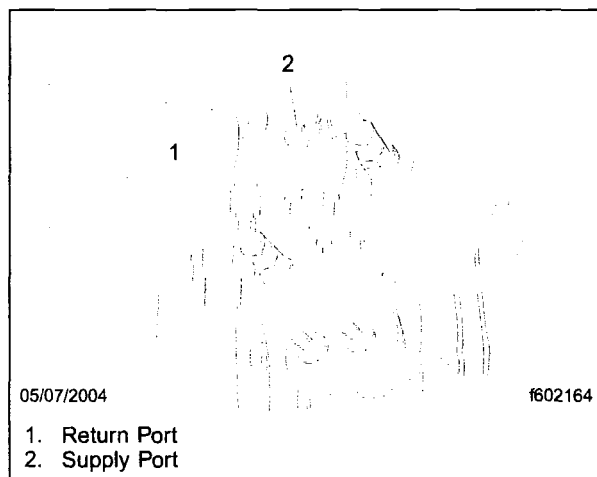

Fig. 3, Install a Flow Restrictor on the Supply and Return Ports
4. Remove the hydraulic hose and elbow adaptor fitting from the supply and return ports on the tilt cylinder. The supply port is located 90 degrees from the fluid tube and the return port is adjacent to the fluid tube on the tilt cylinder. See **Fig. 3**.
5. Apply thread sealant compound to the threads of the flow restrictors (from kit 25-FL427-000), then install them on both the supply and return ports on the tilt cylinder. See **Fig. 3**.
4. Place a drain pan under the bottom of the tilt cylinder. Remove the hydraulic hose and elbow adaptor fitting from the supply and return ports on the tilt cylinder. The supply port is located 90 degrees from the fluid tube and the return port is adjacent to the fluid tube on the tilt cylinder. See Fig. 3.